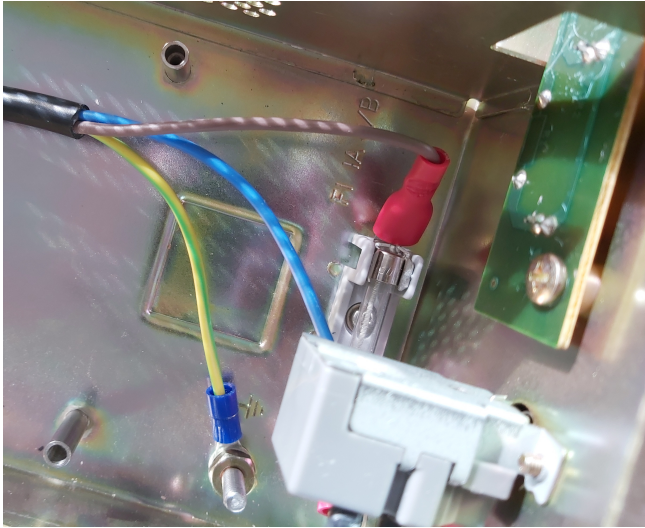

Figure 3: Connect the Ground (green) and Live (brown) wires.
4. Firmly push the spade connector onto the fuse holder terminal. Loop the ring connector over the vertical 'ground' post and secure it in place with a nut (as shown in Figure 3). Note that the fuse itself does *not* need to be replaced.